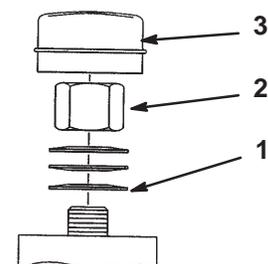

Figure 48
- Remove the dust cap from the caster and tighten the locknut (Fig. 48).
- Tighten until the spring washers are flat and then back off 1/4 turn to properly set the preload on the bearings (Fig. 48).
Important Make sure that the spring washers are installed correctly as shown in Figure 48.